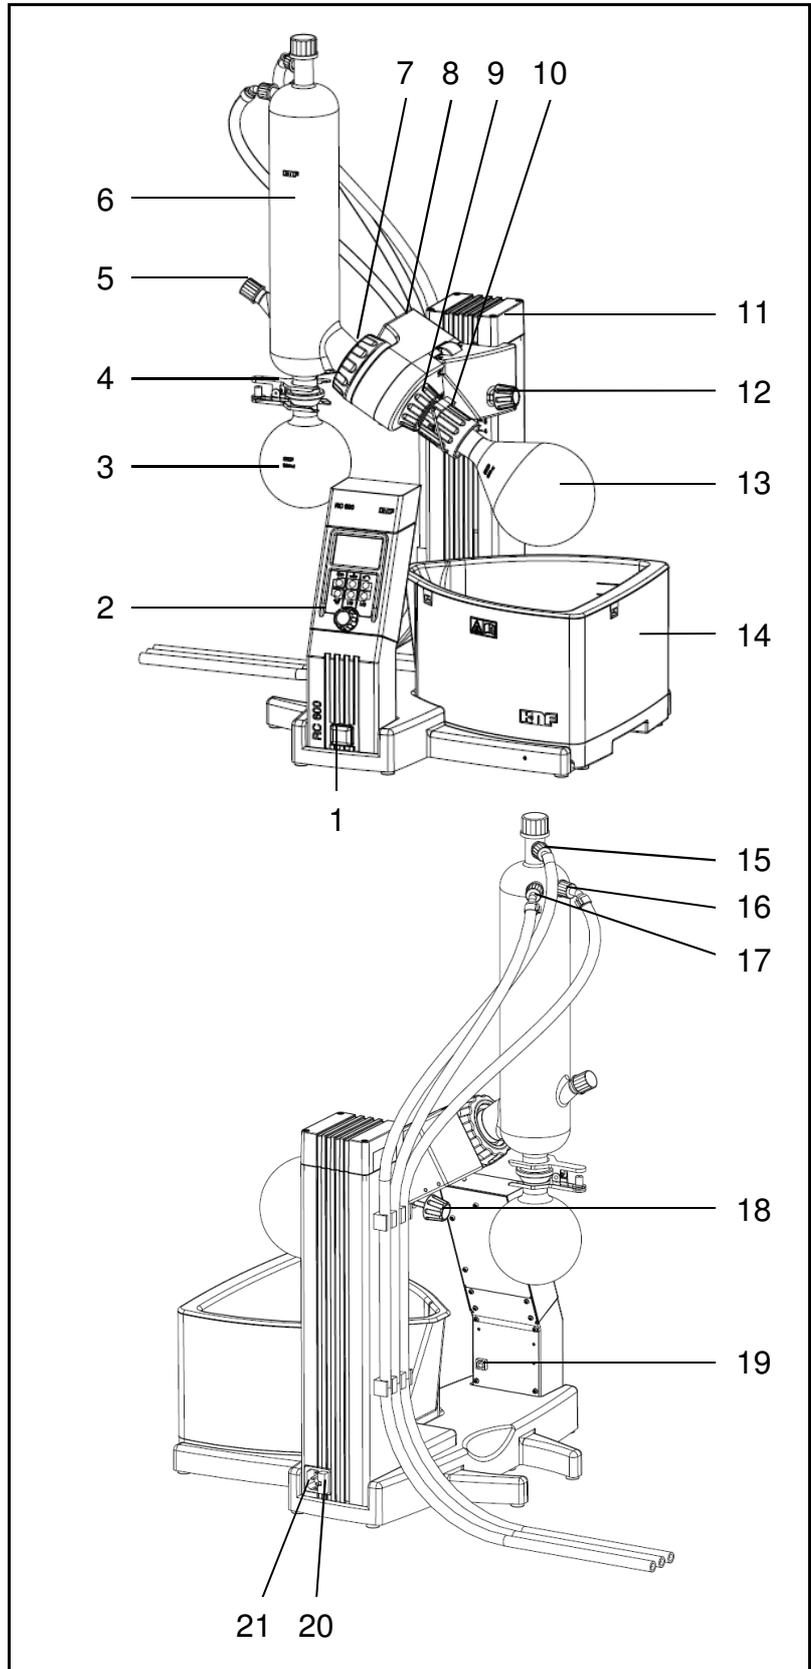
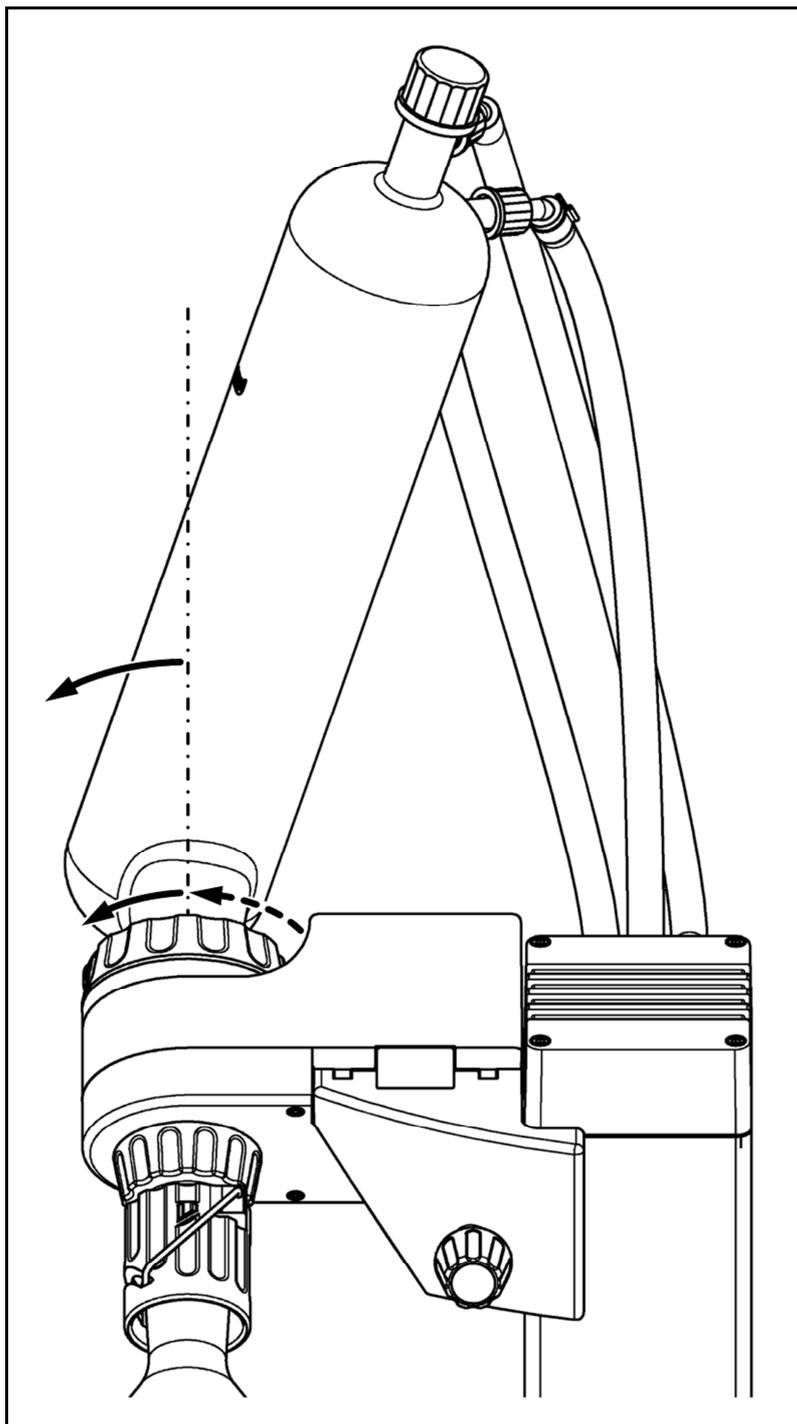

Fig. 1: Rotary evaporator RC 600
Fig. 4: Fully tightening the tension nut
The RC 600 rotary evaporator is designed for distillation and evaporation of solutions. The rotary evaporator is operated via the terminal (Fig. 1/2, p. 15).
Use the rotary knobs (Fig. 1/12+18) to adjust the evaporation flask's angle of inclination. Together with the ability to move the evaporation flask up and down and to displace the heating bath, the rotary evaporator may be adapted to various shapes and sizes of evaporation flasks.
Installing the heating bath	Place the included heating bath (Fig. 1/14, p. 15) onto the base connector. Once in place, the heating bath can be shifted along the axis of rotation (for maximum pull-out length, see Chapter 4 Technical data).
Installing the chilled condenser	<p style="text-align: center;">NOTE</p> <p>When installing glass parts, allow sufficient space above the rotary evaporator because the glass structure may exceed the dimensions of the rotary evaporator itself.</p> <p>The chilled condenser (Fig. 1/6, page 15) is delivered uninstalled. Install as follows:</p> <ol style="list-style-type: none">1. Loosen tension nut (7) for chilled condenser until the chilled condenser can be inserted.2. Insert chilled condenser (6).3. Retighten tension nut (7) for chilled condenser. <p style="text-align: center;">NOTE</p> <p>To finish tightening the tension nut, grasp the chilled condenser with your other hand and use it as a lever (see Fig. 4).</p>
When loosening the tension nut, grasp the chilled condenser with your other hand and use it as a lever (refer to Fig. 4).
Install the separate collection flask (Fig. 1/3, page 15) using the included flask clamp (Fig. 1/4, page 15).